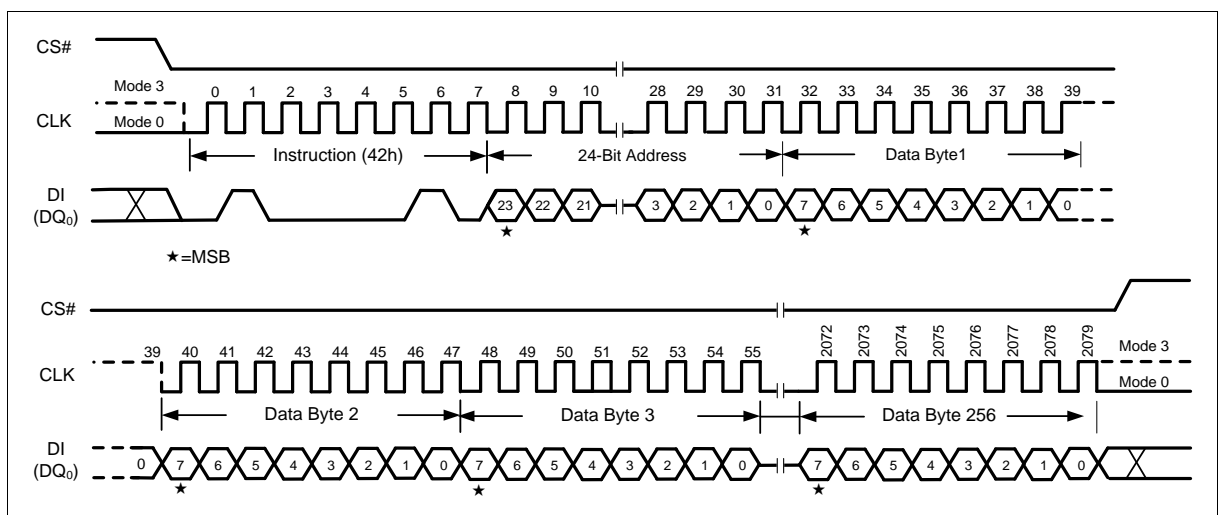

Figure 60 Program Security Sectors Instruction (SPI Mode only)
The Program Security Sector instruction sequence is shown in Figure 60. The Security Sector Lock Bit (LB) in the Status Register-2 can be used to OTP protect the Security Sectors. Once a lock bit is set to 1, the Security Sector will be permanently locked, Program Security Sector instruction will be ignored.